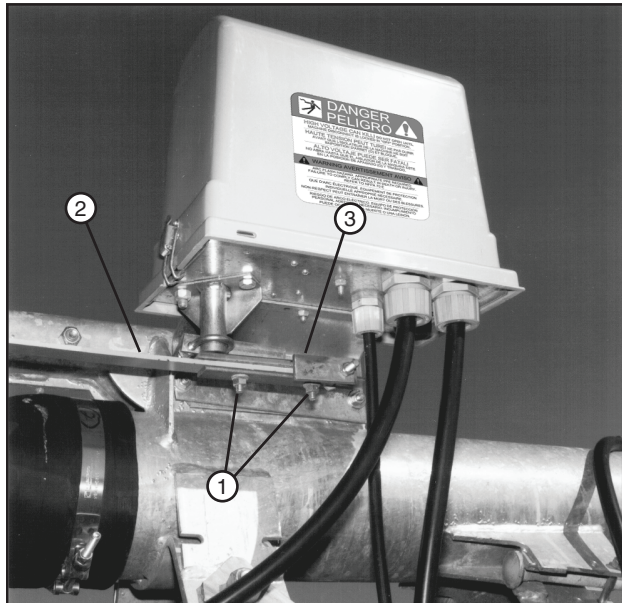

Figure 84-1 1. Hardware
1. Loosen the hardware securing control bar to the switch pivot arm. See figures 84-1 and 84-2.
2. Adjust the jam nuts clockwise or counter-clockwise no more than 1/4 of a turn at one time. See figures 84-1 and 84-2, and the adjustment chart below.